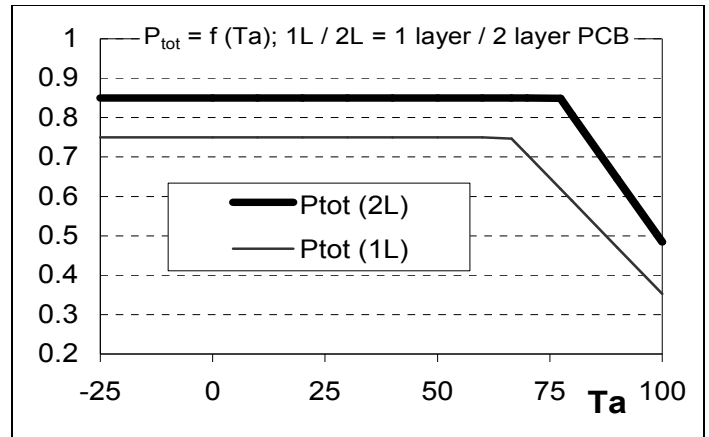

Figure 1: Ptot = f(θ_a)
- 9 at max. operating temperature, the allowed total power dissipation depends on additional thermal resistance from package to ambient and on the operation ambient temperature as shown in Figure 1.